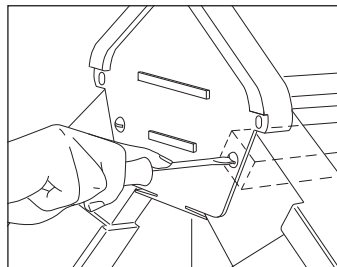

Fig. 8 – Screw ridge end cap
- 12 Screw ridge end cap through top course verge unit, to end of top course tiling batten. Locate 25mm x 8g stainless steel screws through lower, partly formed fixing holes (Fig. 8).